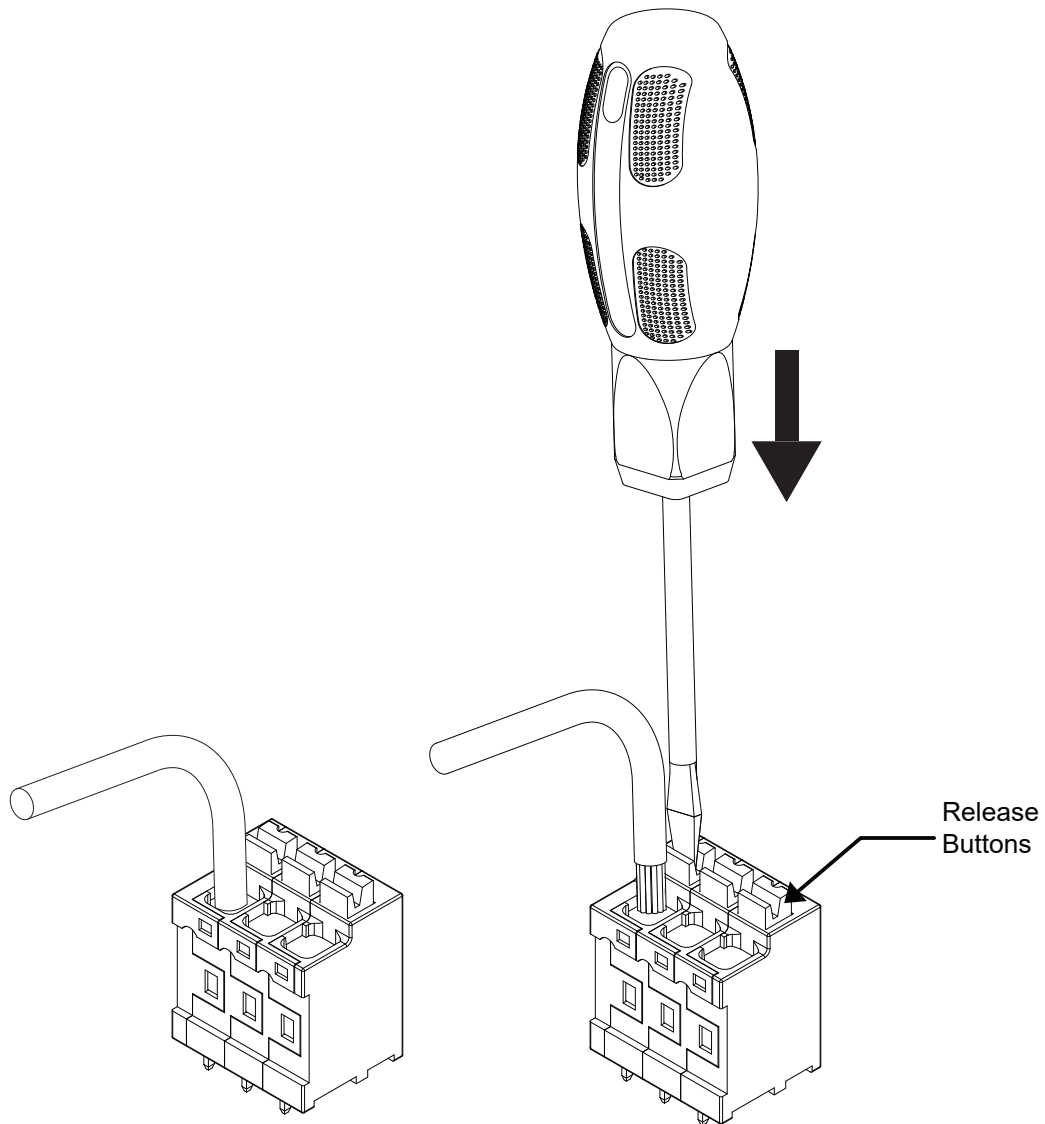

Figure 12: OMNIMATE Connector Instructions
- The BD-3PI uses the Omimate® Connector. See **Figure 12, page 22** for connect/disconnect instructions.